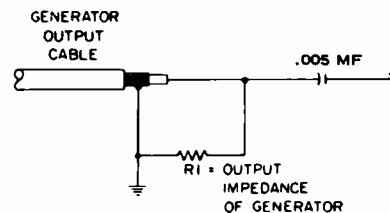

Figure 8 - Generator cable termination.
**Generators** - Except where otherwise noted, all signal generating equipment should be terminated as shown in Figure 8. Connect the signal cable ground near the ground of the stage where the signal is injected.